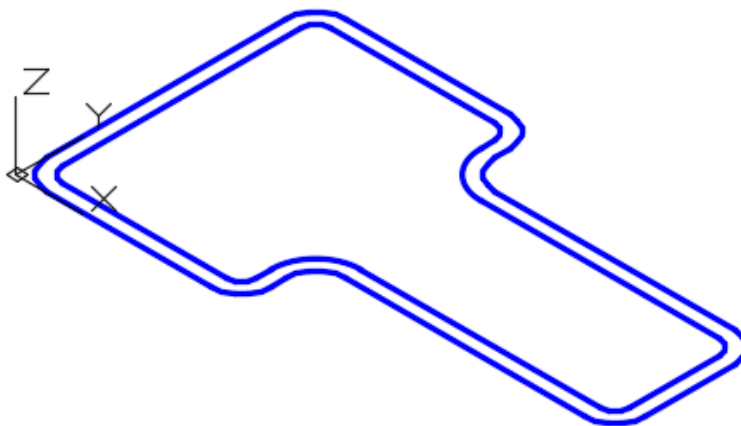

Figure Step 15
Step 15 Change the layer of the solid on layer: Solid 1 to layer: Solid Off. Turn layer: Path on and set layer: Profile as the current layer. Set the visual style to 2D wireframe. (Figure Step 15)